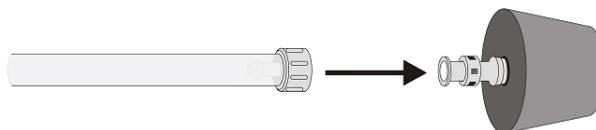

Figure 2
- c. Connect the free-end of the plastic tubing to the connector in the rubber stopper as shown in Figure 2.